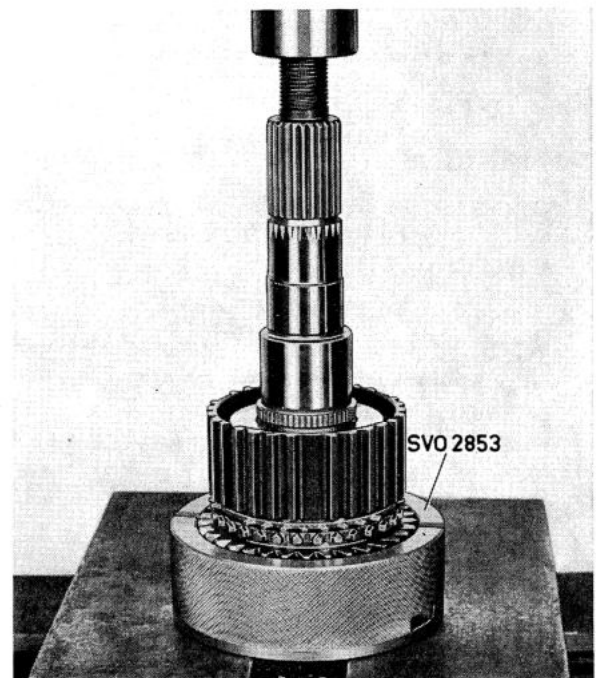

Fig. 4-24. Dismantling the mainshaft, I
3. Fit tool SVO 2853 on to the mainshaft. Place the shaft in a press and support it with the tool as shown in Fig. 4-24. Press off 2nd speed gear wheel and 1st and 2nd speed synchronizing hub.